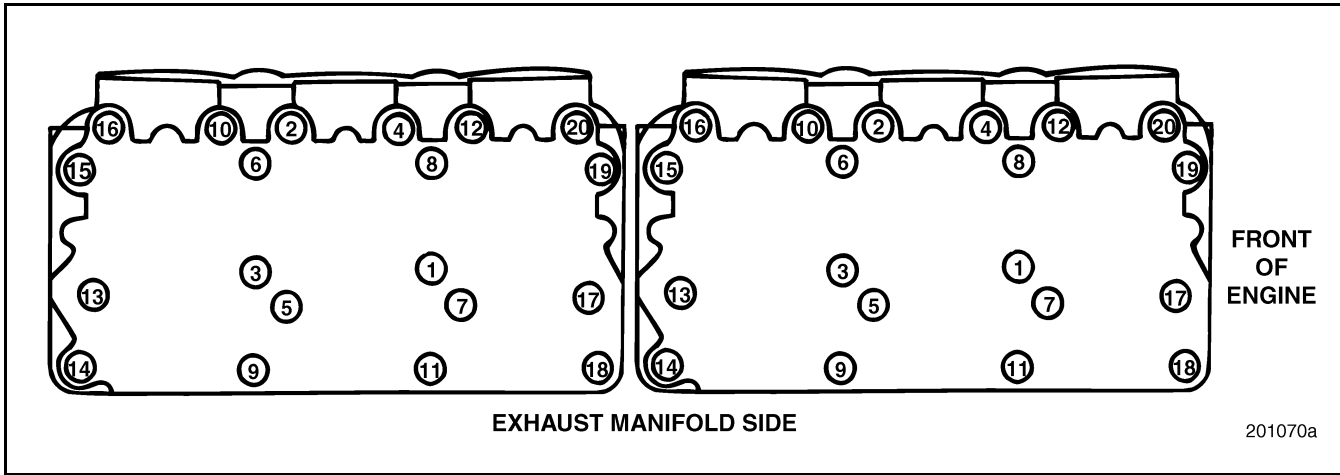

Figure 368 — Head Bolt Torque Sequence Chart
7. Using torque wrench J 24407, or equivalent, tighten all cylinder head mounting capscrews to specification in three steps as listed below. Refer to Figure 368 for the tightening sequence.